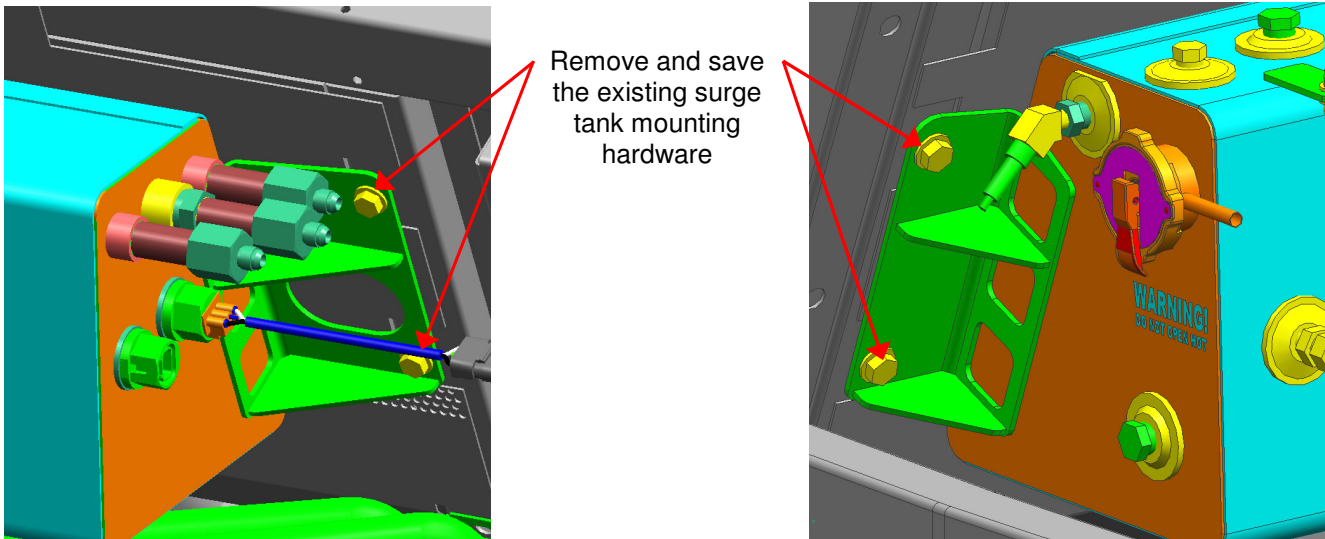

Figure 8: Remove Surge Tank Mounting Hardware
13. Remove the mounting hardware securing the surge tank mounting flanges to the vehicle structure and set aside for reuse later in this install. Remove surge tank. See Figure 8.
20. Ensuring the newly assembled tank is free from debris or contaminants install using the hardware removed in Step 13 align tank mounting flange holes with the existing weld nuts in the bus structure, reference Figure 8.